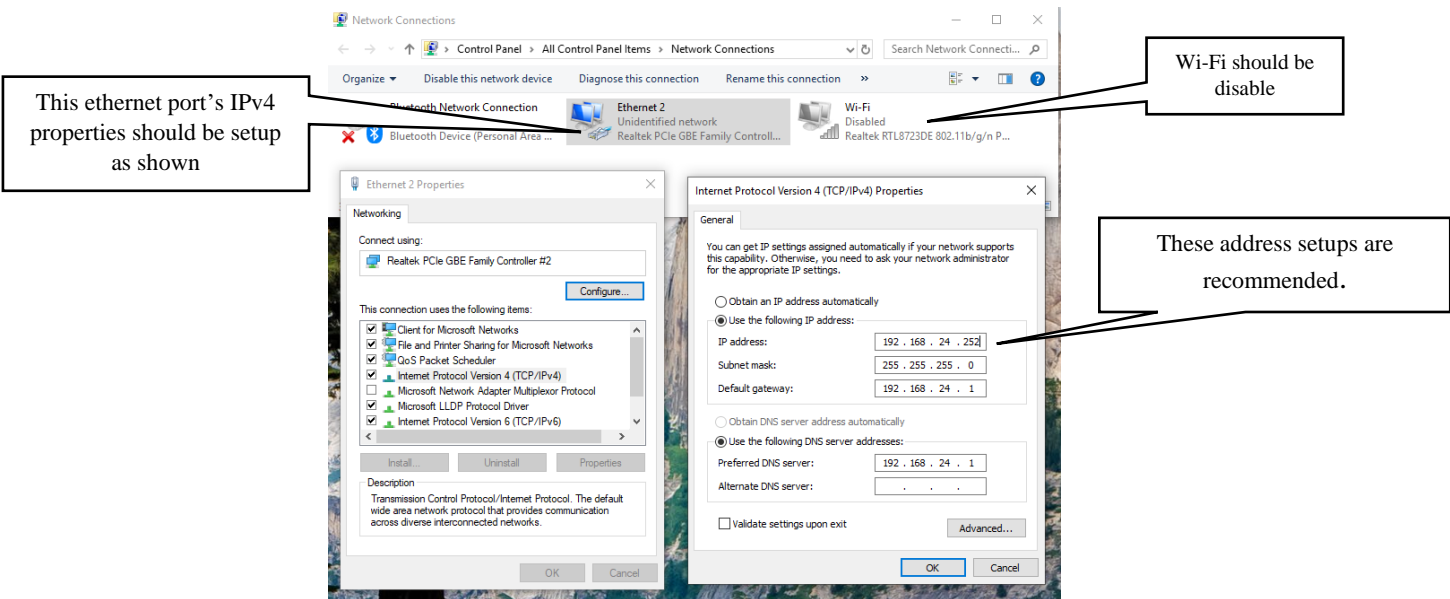

Figure 1 - Example network setup on a PC for best inter-working with a WSA-408/308
1. For best initial networking connections, one should disable the Wi-Fi port as shown in Figure 1. This also prevents unnecessary PC Wi-Fi signal from being picked up by WSA’s antenna.
2. The ethernet port's IPv4 address should be set to "static", and the best address to use is "192.168.24.252", as shown in Figure 1. This is to avoid the two IP addresses used inside a WSA-408, "192.168.24.5" for the DSP, and "192.168.24.254 or 127" for the embedded PC. The WSA-308's internal DSP also uses the address "192.168.24.5".